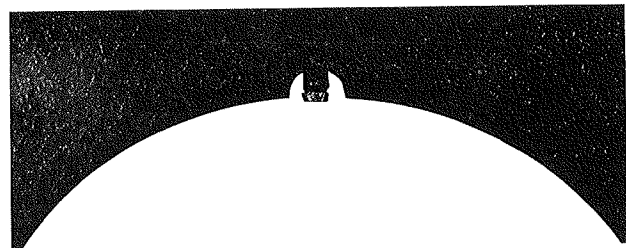

Figure 7-13. Write Enable Actuator Tip
b. Position assembly so edge of baseplate is straight up and down and tip of actuator is at center of half circle when viewed from front, as shown in figure 7-13. After assembly is properly aligned, tighten three mounting screws.